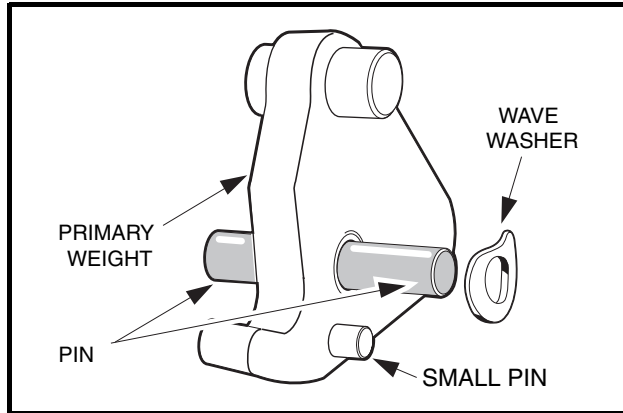

Figure 17-12 Install Pin and Washer
- 5.3. Before removing, note the orientations of the wave washer and of the primary and secondary weights to one another (**Figures 17-12 and 17-13, Page 17-9**). Remove the plastic washers, weights and wave washer from the pin. Retain all parts.
7. Install the primary weights on the mounting pins (**Figure 17-12, Page 17-9**).
8. Install a wave washer on each mounting pin. Make sure that the concave side of the washer faces the side of the primary weight with the small guide pin protruding from it (**Figure 17-12, Page 17-9**).